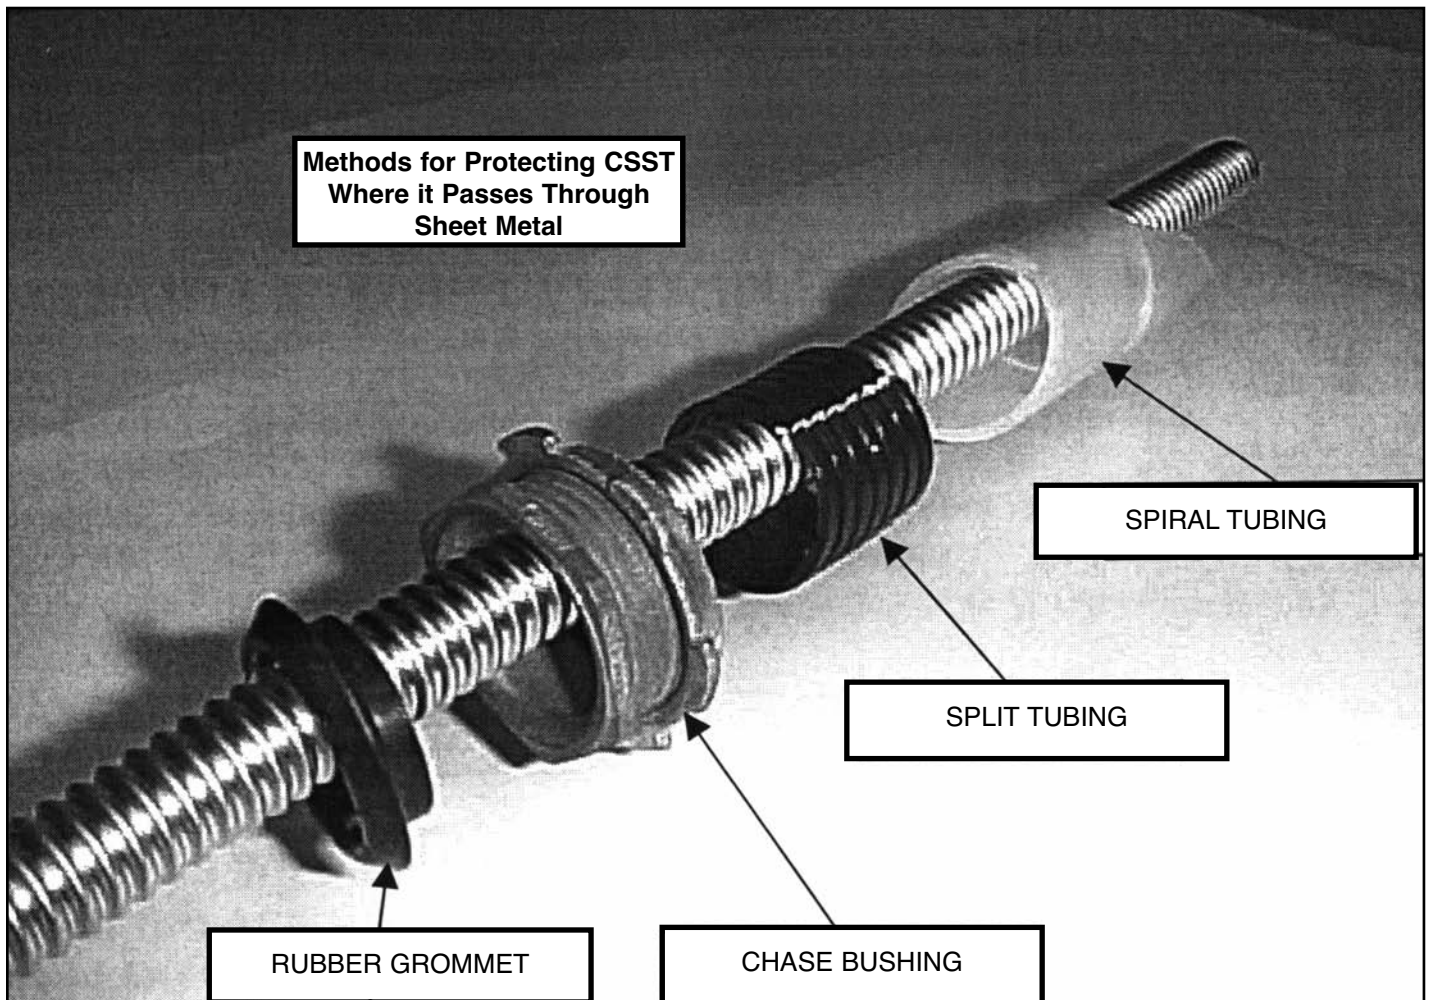

Figure 4.29
- Where WARDFLEX penetrates the firebox of a factory built unit clearance shall be maintained around the tubing and the tubing shall be protected against sharp edges with a grommet, caterpillar strip (electrical supply stores), conduit bushing, or other methods. (Figure 4.29)